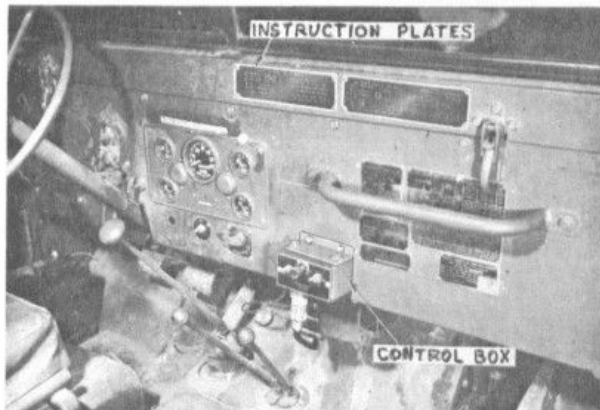

Figure 14
control box. This will permit use of the longer screws through the instrument panel (See Figure 14).
1. Mount the heater operating instruction plate and wiring diagram at the base of the windshield. Use the plates as a template to locate and drill eight holes with a No. 21 drill and attach the plates with the eight No. 10-32 x $\frac{3}{8}$ thread cutting screws provided (Figure 14).